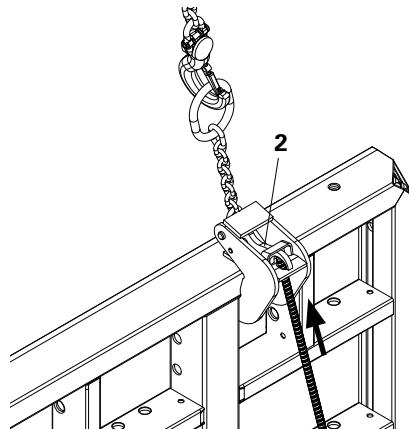
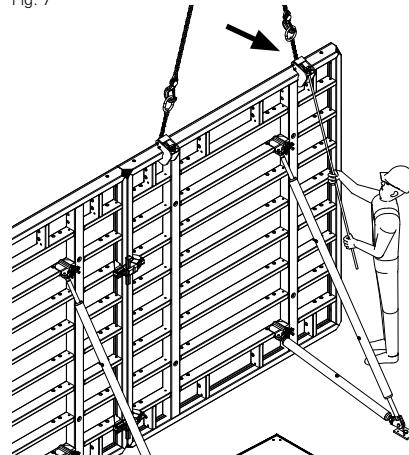

Fig. 7
Fig. 8
Push back the clamping jaw (2) by hand or with a tie rod against the spring resistance until the outermost position is reached and then push the lifting hook to the rear. (Fig. 7 + Fig. 8)